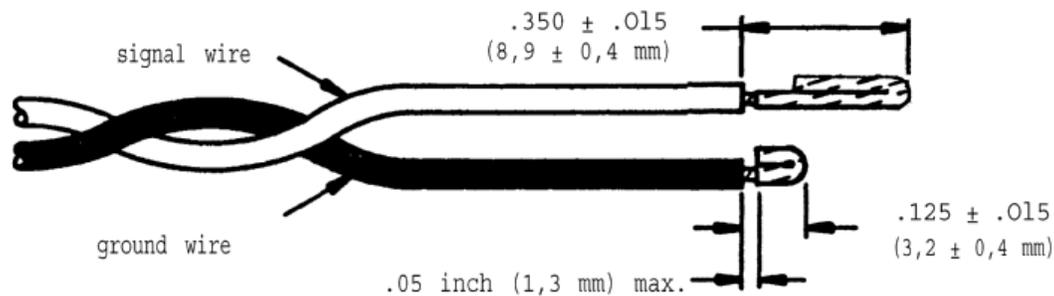

FIGURE 5
5.1.6.2 Fold both leads back as shown in Figure 5.